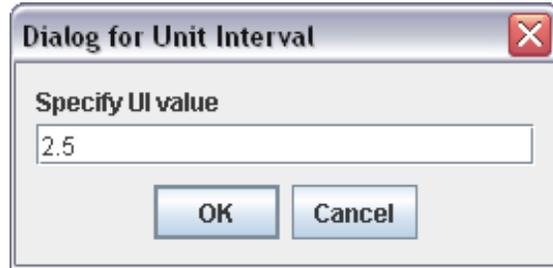

Figure 3.20: Pop-up dialog for the “Define UI” item in the “Eye Mode” menu.
- **Define UI:** will display a dialog, as shown in Figure 3.20, for user to enter a value for the unit interval (UI) or bit-time.